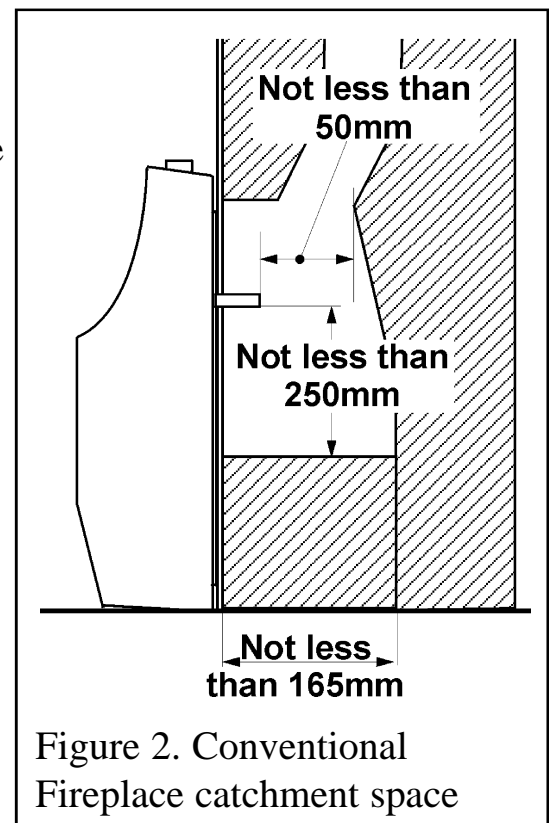

Figure 2. Conventional Fireplace catchment space
Any opening visible below the appliance may be closed in but the depth of the catchment space within the wall opening must be as shown in figure 2.
On conventional flues the catchment space below the flue spigot must extend at least 250mm downward measured from the bottom of the flue spigot (See figure 2).
5.3.8. If the fire is fitted to a recessed fireplace, an extension flue spigot up to a maximum total length of 125mm may be used. The extension must be a tight fit over the flue spigot and be secured by two self tapping screws. Note the minimum clearance required as shown in figure 2.